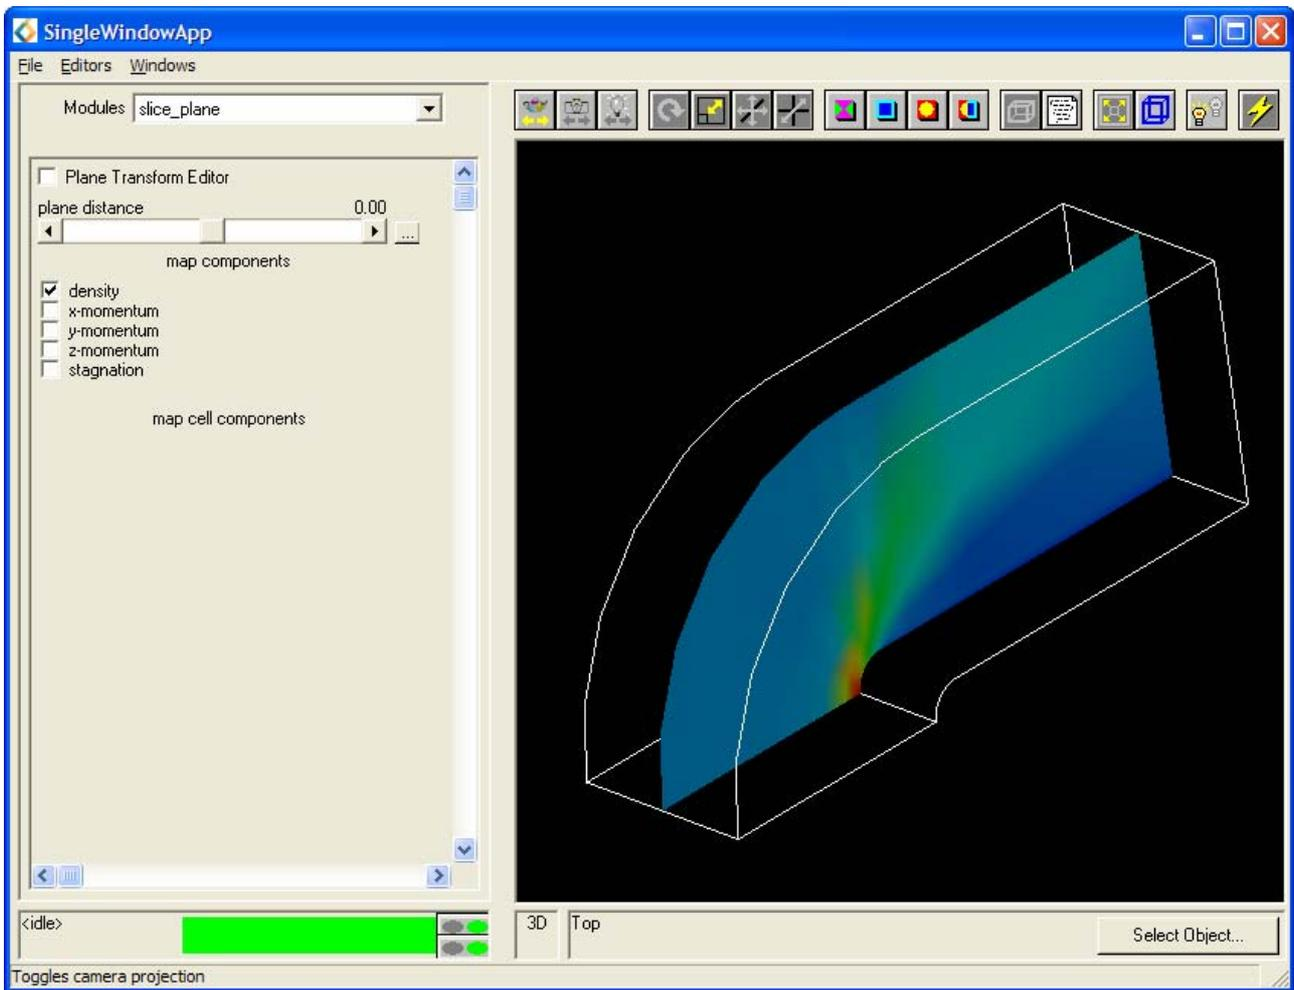

Figure 4.7: `slice_plane` Editor Panel
- The Viewer window should now show an image similar to Figure 4.7.